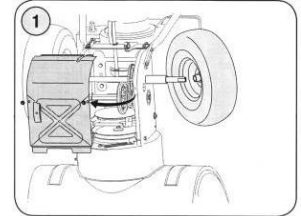

Figure 24
- b. Remove the right-hand wheel by removing the screw and bell washer which secure it to the axle. See Figure 24.